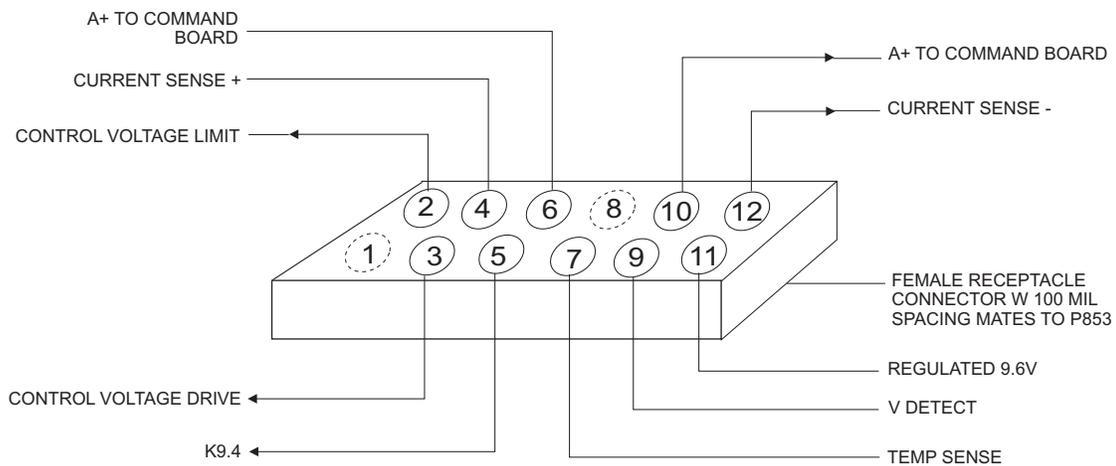

Figure 4-10. PA Test Adapter, 15 and 35 Watt Power Amplifier
2. Apply the input power and DC voltages indicated in Table 4-23 to the power amplifier assembly. To make the DC connections, use small spring-clips or make a test adapter similar to that shown in Figure 4-10.